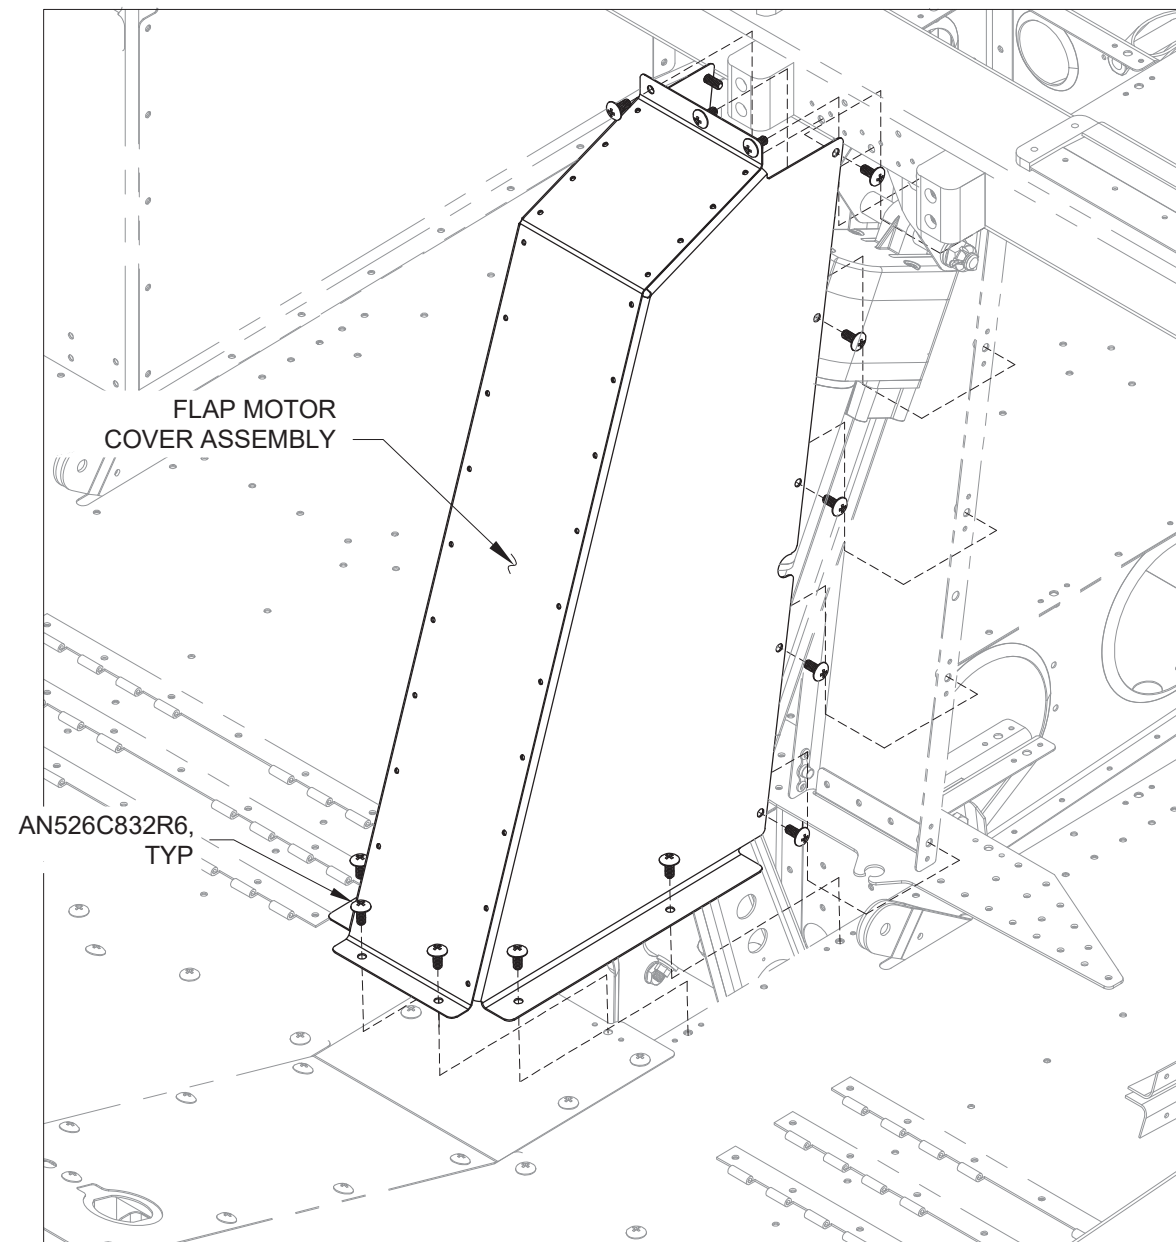

FIGURE 1: FLAP MOTOR COVER INSTALLATION
Step 1: Install the Flap Motor Cover Assembly with the hardware called out in Figure 1.